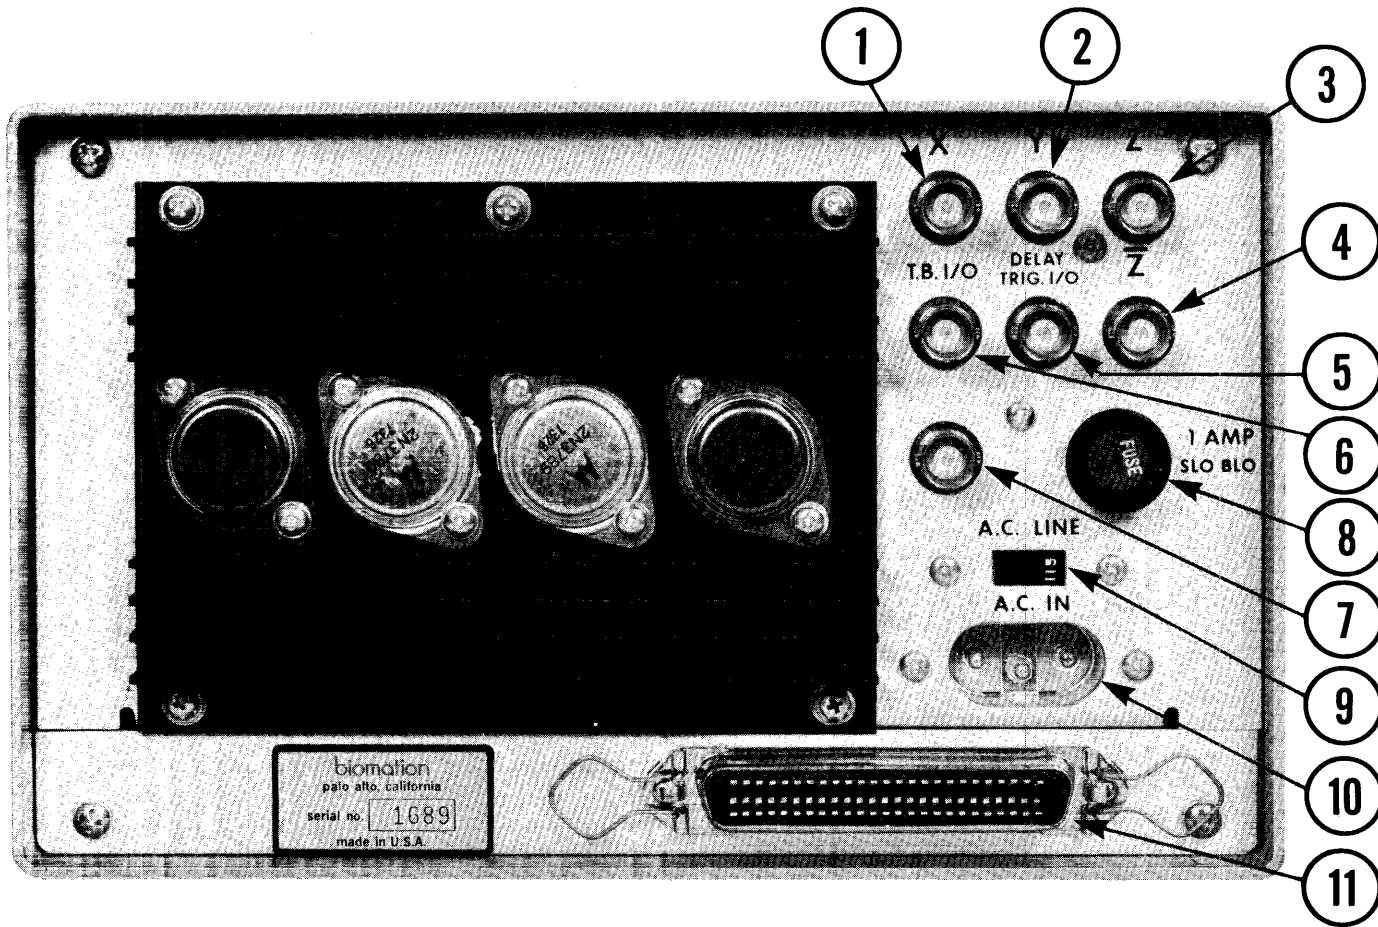

Figure 4.2 810-D Rear Panel
4.3 Rear Panel Connectors. (See Figure 4.2).